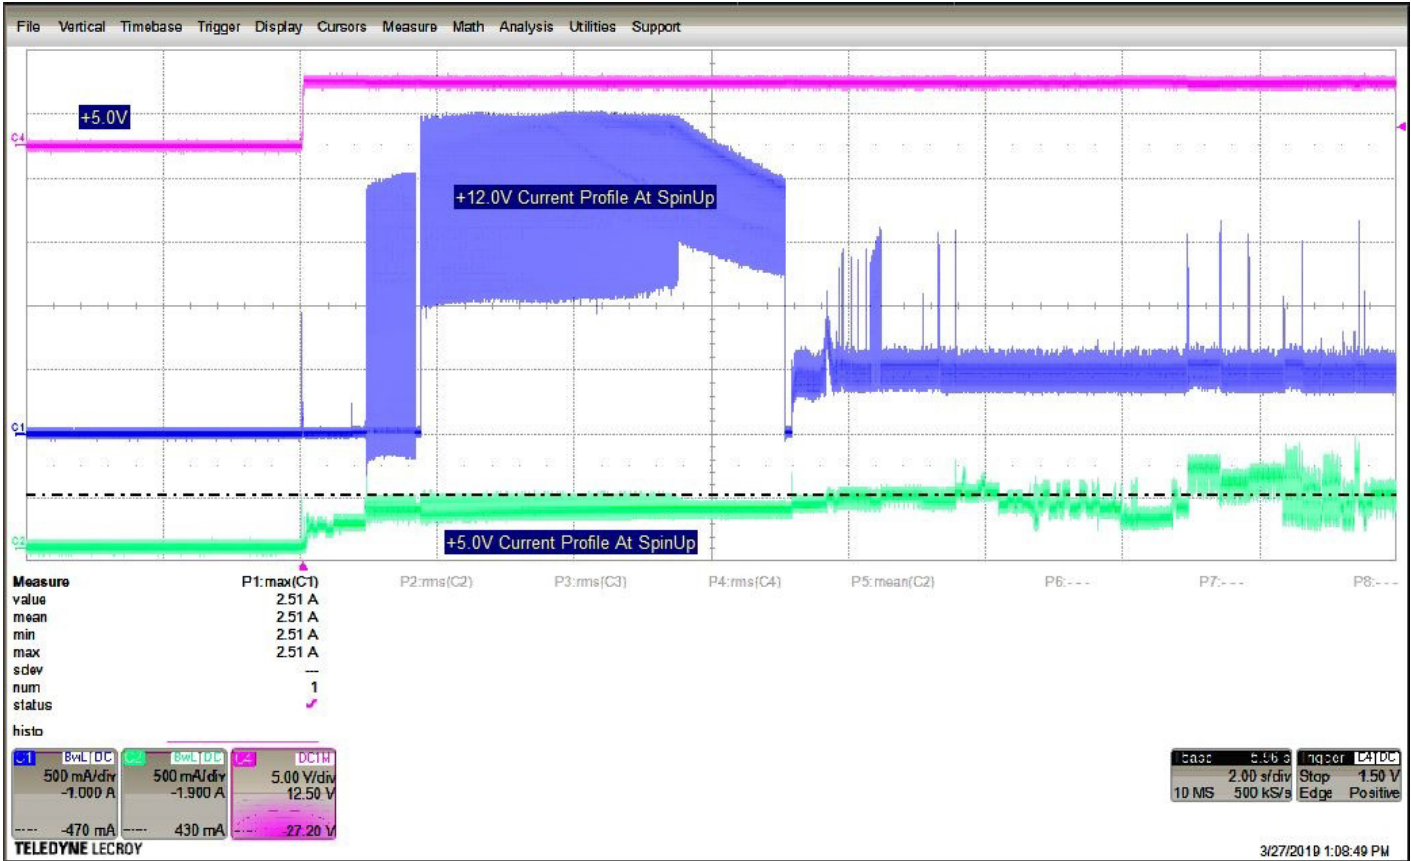
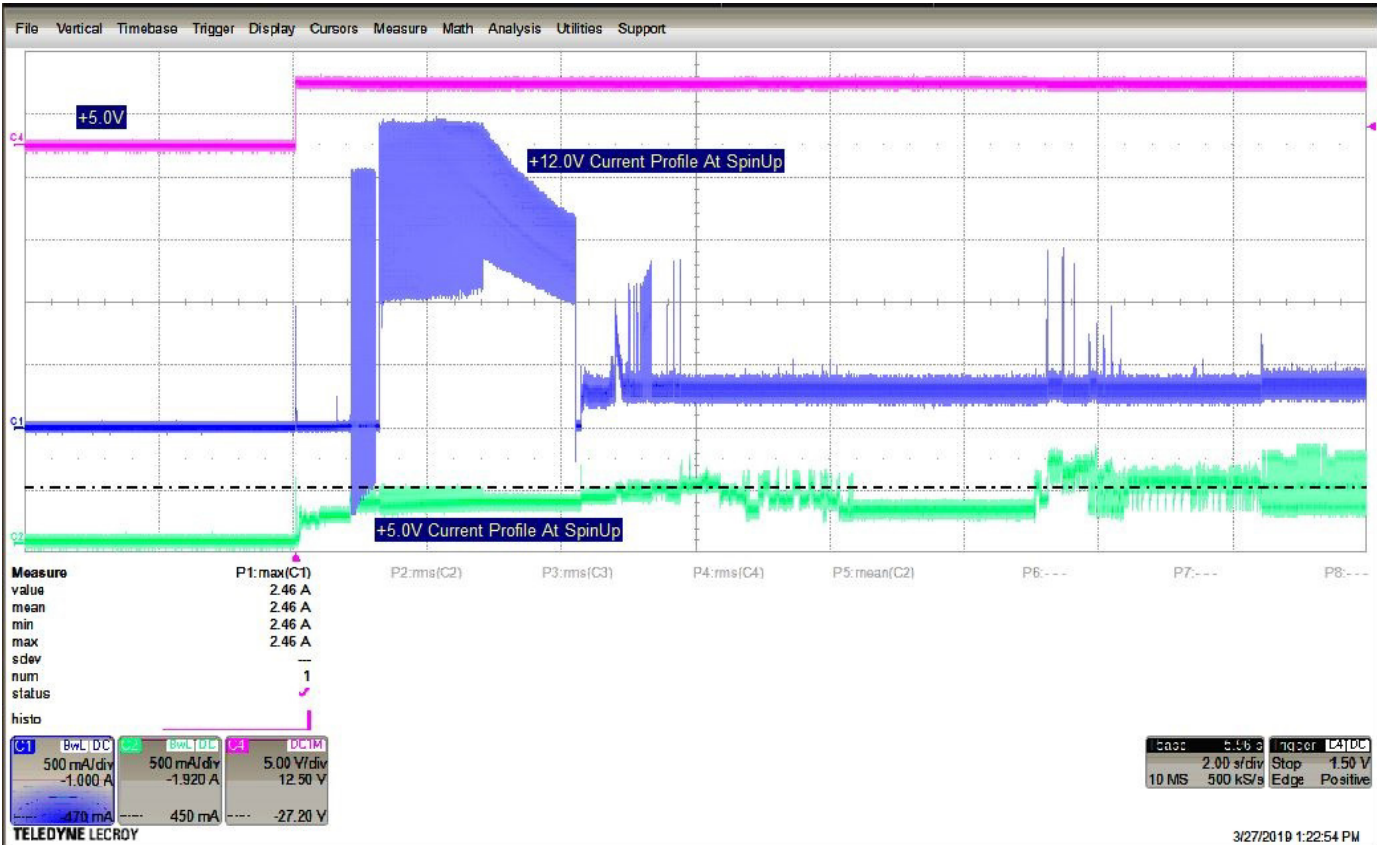

Figure 1. 6TB model current profiles
Figure 3. 2TB and 1TB model current profiles
- [3] See +12V current profile in Figure 1 through Figure 3 (for 6TB through 1TB models)